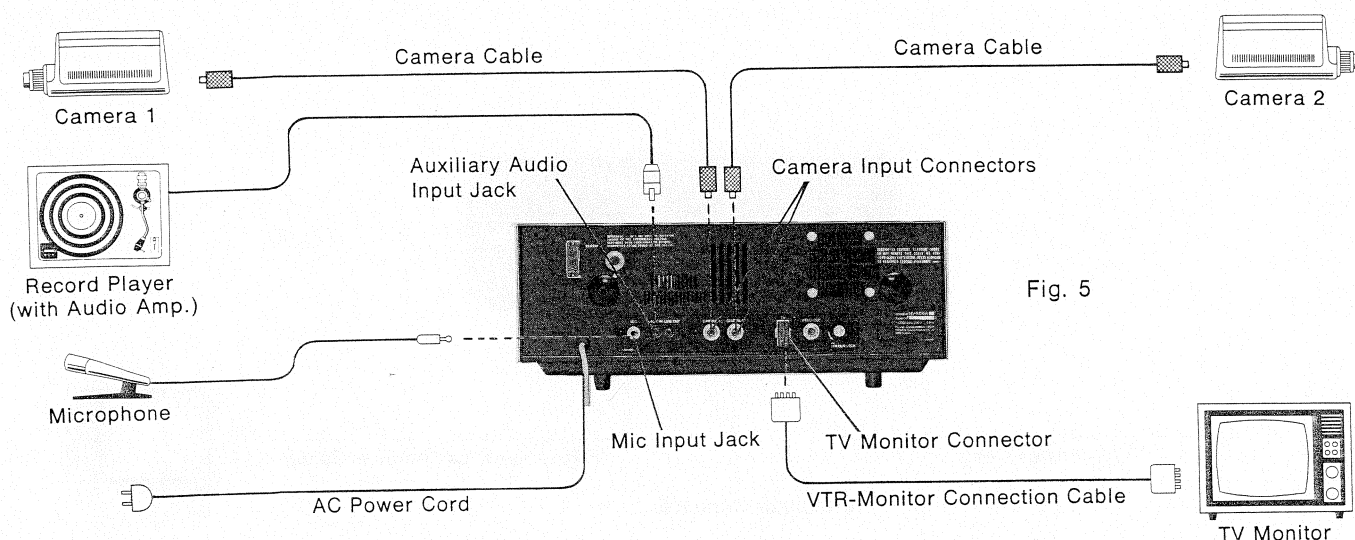

Fig. 5
1. Connect, as shown in Fig. 5, the recorder to a TV monitor using the VTR-monitor connection cable.